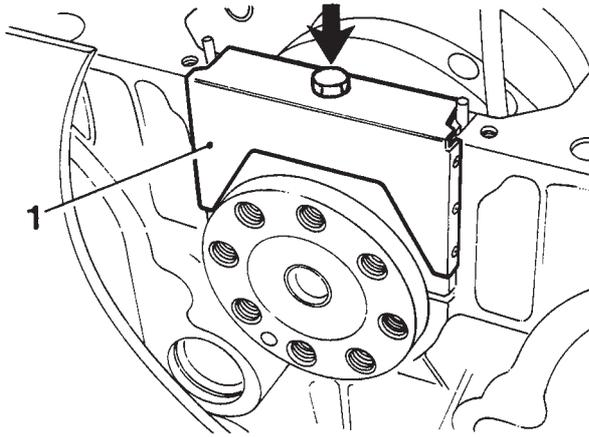

Fig.5 Using tool 0480062 to fit bearing cap
8. Carefully fit tool 0480062 to the bearing cap, making sure the rubber seals are correctly located. Secure the tool to the cap with a suitable bolt in the position arrowed (fig.5), and lubricate the sides of the tool.